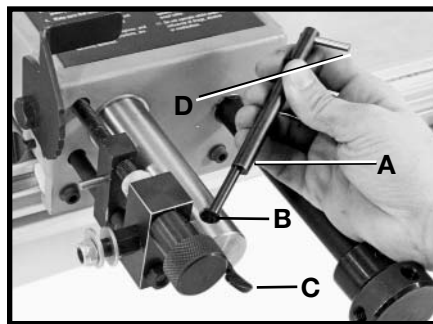

Fig. 22
Insert follower arm (A) Fig. 22 into hole in arm (B) of carriage assembly and tighten thumb screw (C). **NOTE:** Pin (D) of follower arm (A) should point toward right end of duplicator rail.